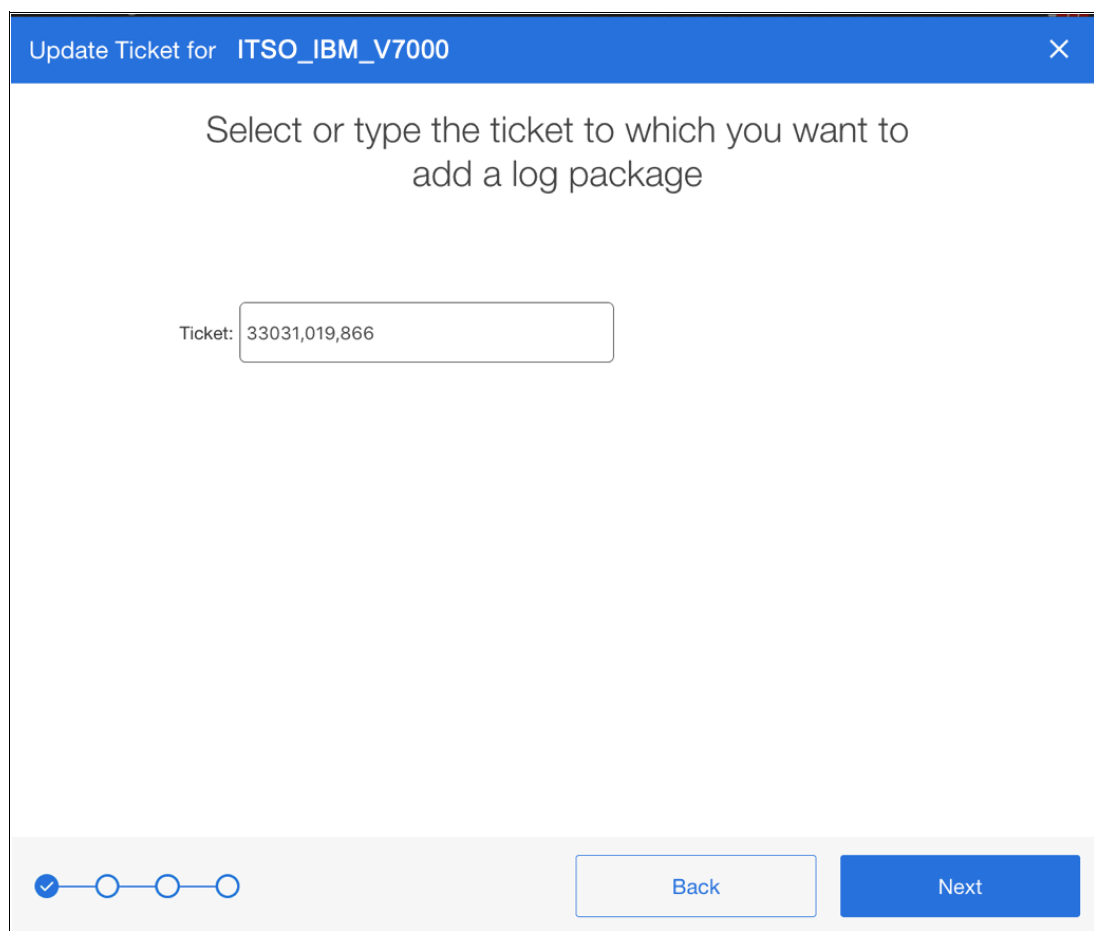

Figure 11-20 Entering the PMR ticket number
3. Figure 11-20 shows the next window in which you must enter the PMR number and then, click **Next**. This PMR input is in the format XXXXX,YYY, ZZZ, where: